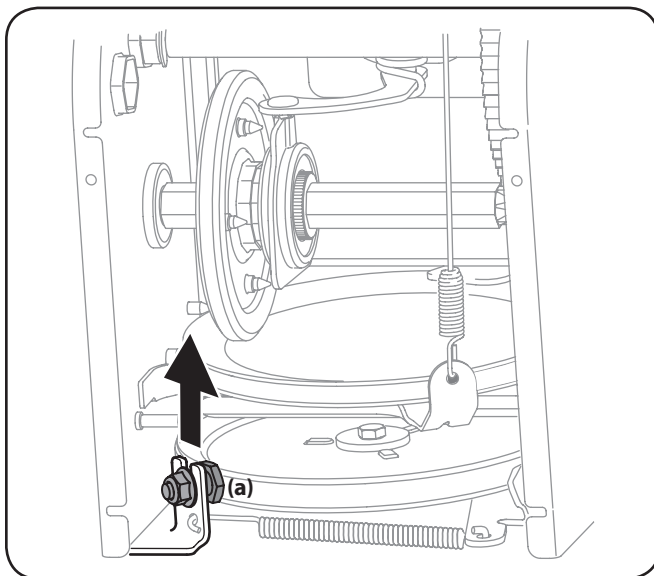

Figure 7-6
7. Loosen and remove the shoulder bolt (a) which acts as a belt keeper. See Figure 7-6.